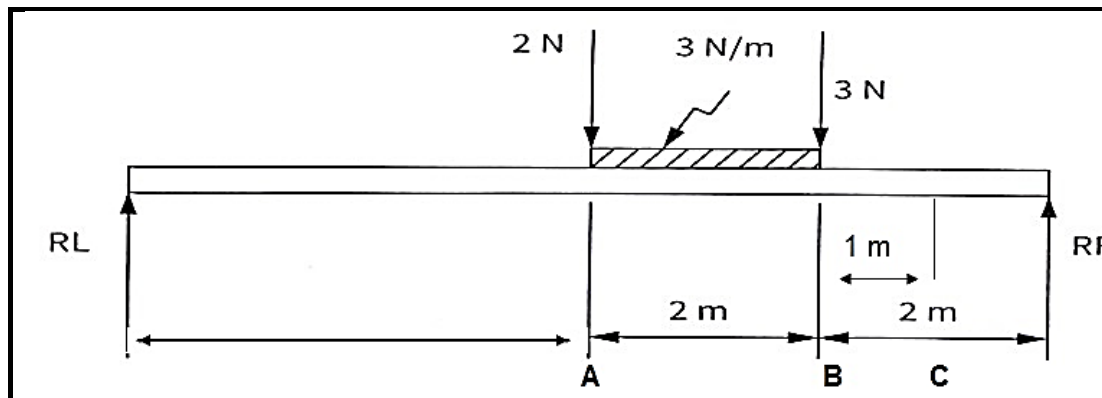

FIGURE 7.3
7.3 FIGURE 7.3 below is diagram of a beam with a UDL resting on the beam. The beam is supported at two ends.
Calculate the following for FIGURE 7.3: